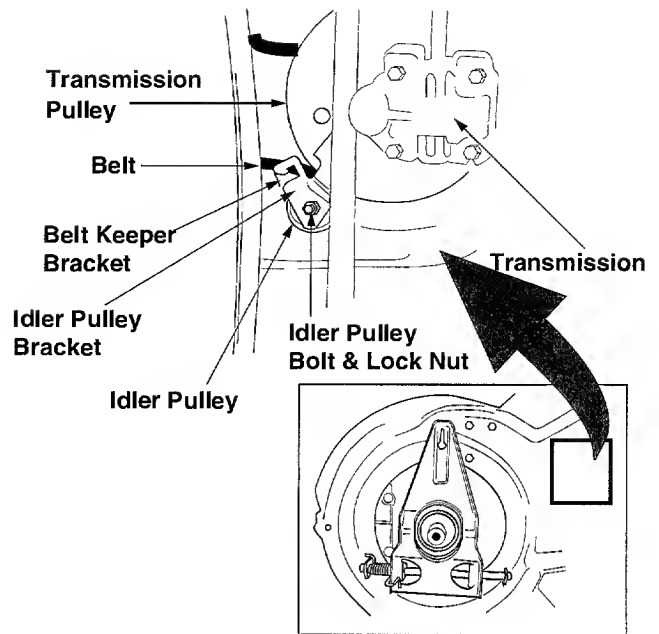

Figure 22
- Tilt the transmission forward and loosen the idler pulley bolt and lock nut 1/2 turn using two 7/16" wrenches. For location of idler pulley bolt and lock nut, refer to Figure 22.
- Feed the new belt over the transmission pulley, start the belt in pulley groove and rotate pulley until belt is seated in transmission pulley. For location of the transmission pulley, see Figure 22 inset.
- Place belt between idler pulley and the belt keeper bracket. See Figure 22.